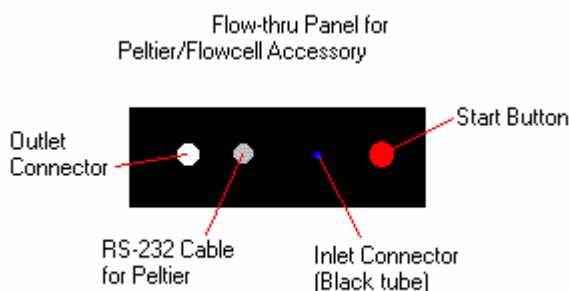

Figure -20 Flow-thru Panel for Peltier/Flowcell Accessory
Step 11 Connect Peltier/Flowcell Controller to the Outlet Tube Connector (Figure-20).